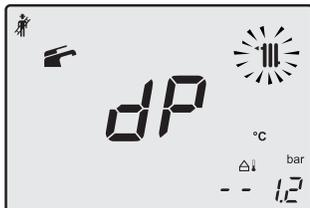

Fig. 9.25
- Press further key 18 to vary again the output in chimney sweep mode: when the LCD display displays the letters **dP** that alternate with the heating water temperature value (e.g. **60**), the "chimney sweep function" is at maximum output in domestic hot water mode" (Fig. 9.25).